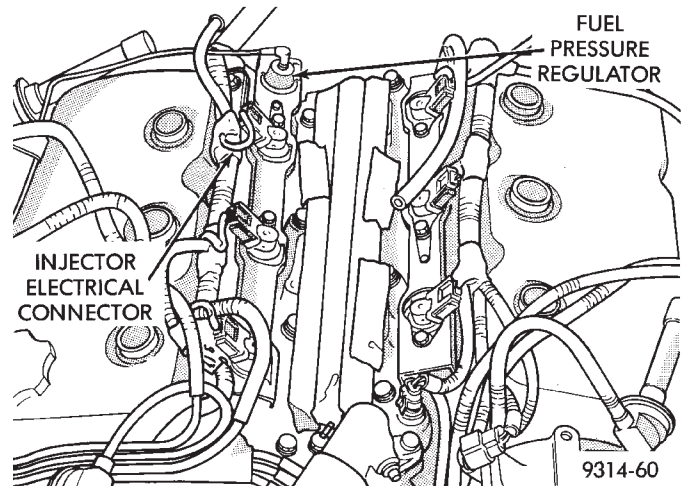
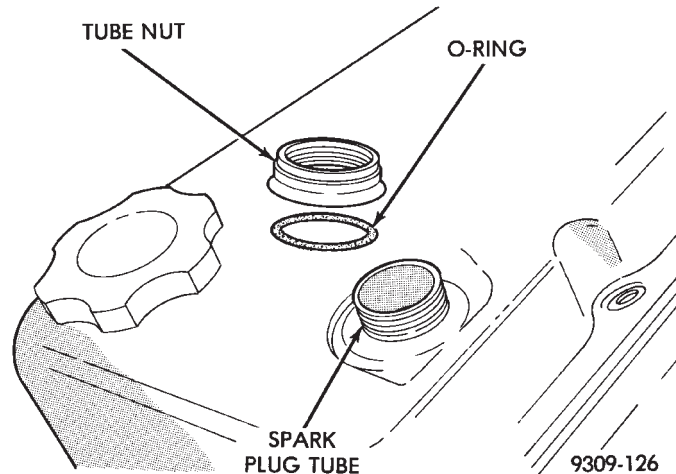

Fig. 2 Cover Lower Intake Manifold With Suitable Cover
Fig. 3 Spark Plug Tube Nut and O-Ring
(1) Remove air cleaner assembly and intake manifold plenum. Refer to Group 11 Exhaust System and Intake Manifold for procedure.
(2) Cover lower intake manifold with a suitable cover during service (Fig. 2).
(3) Disconnect and relocate spark plug wires.
(4) Loosen the A/C compressor mounting bracket and pull away from cylinder head.
(5) Remove spark plug tube nut and o-ring (Fig. 3).
(3) Install spark plug tube nut and o-ring (Fig. 3). Tighten nut to 7 N•m (60 in. lbs.).